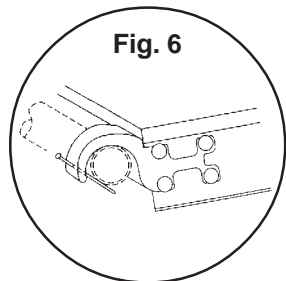
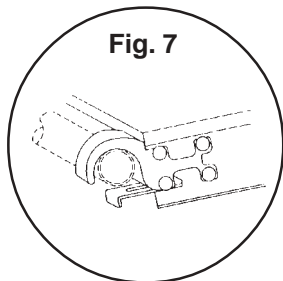

Fig. 6
Fig. 7
7. Upon completion of tower to desired height, install and lock double guard railing and toeboards on all 4 sides as required by OSHA. Make sure all guard rail posts are secured with lock pins. Install walkboards to fully deck platform work area. Secure walkboards in place by using an 8 penny nail (Fig. 6), engaging slide lock (Fig. 7), engaging rotation lock (Fig. 8), as equipped. See OSHA regulations for additional information concerning securing decking.